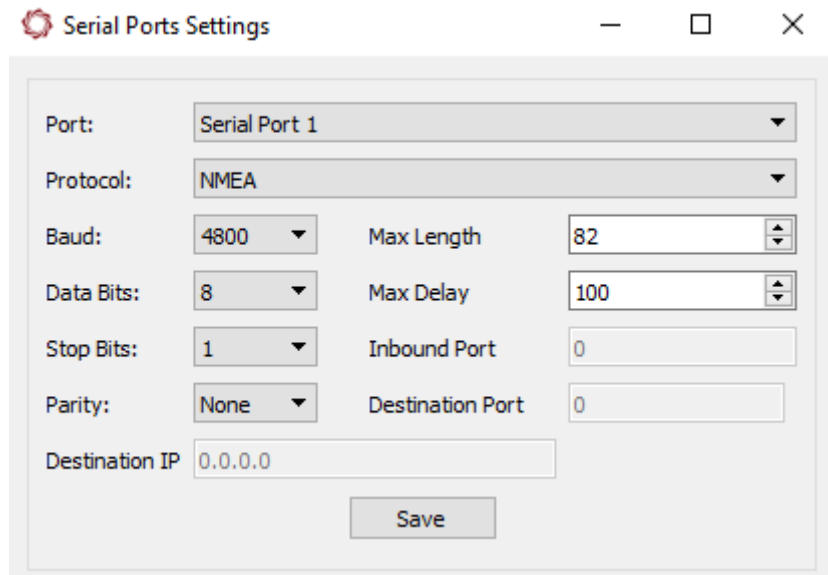

Figure 7: Configure Serial Ports
1. Supply 3.3V to VIOSEL using the jumper connector shown in Figure 7.
2. Using two terminal windows (both windows using SSH), connect Serial-1 to Serial-2 as shown in Figure 7. Apply power to the 1500-OEM.